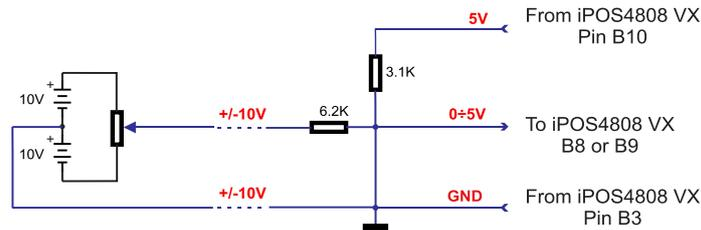

Figure 3.14. +/-10V to 0-5V adapter
**Remark:** Default input range for analog inputs is 0-5 V for REF and FBDK. For a +/-10 V range, see Figure 3.14.